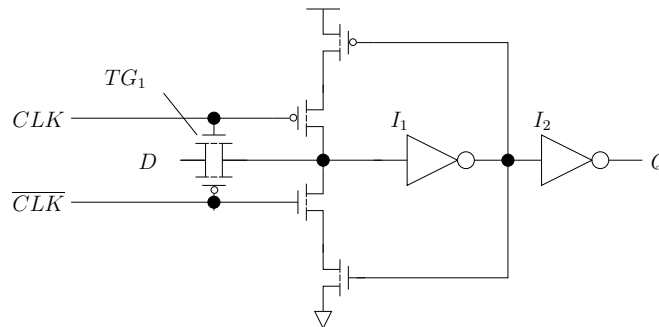

Figure 2: Sequential Element
2. An implementation of a sequential element is show in Fig. 2. Answer the following